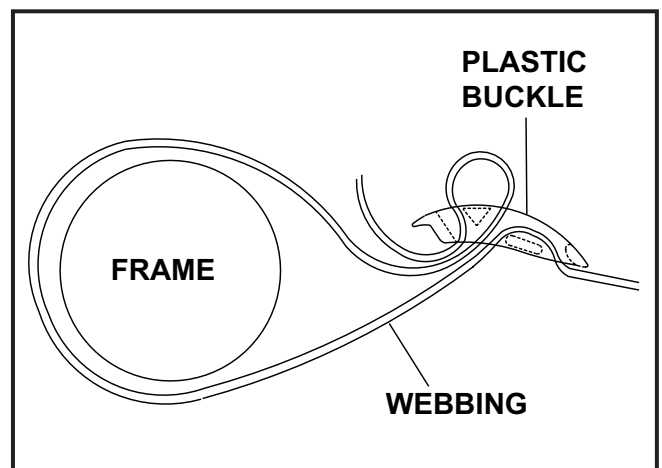

Fig. 4
9. Install nerf bar webbing around frame using supplied pastic buckles (See Fig. 4).